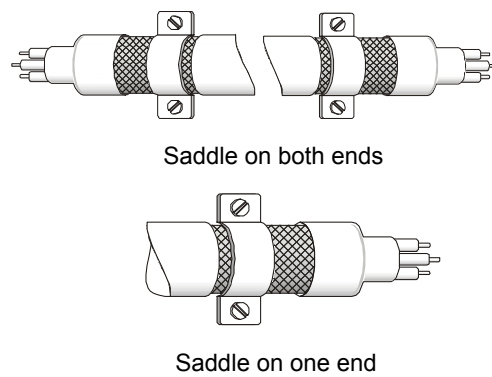

Figure 2
4. It should have correct connection between the braid shielding of the motor cable and the metal plate. The braid shielding on both sides of the motor cable should be fixed by the U-shape saddle and metal plate. Please see figure 2 for the correct connection.